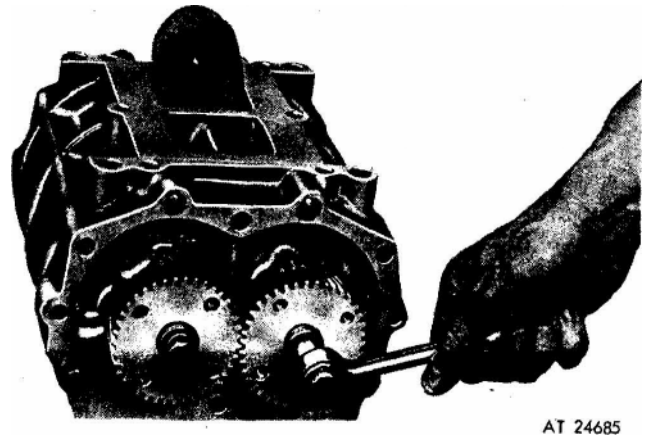

Figure 8. Installing blower rotor gears on rotor shafts.
9. Wedge a clean cloth between the blower rotors. Use the blower rotor gear retaining bolts and plain washers to press the gears on the rotor shafts (fig. 8). Turn the bolts uniformly until the gears are tight against the shoulder on the shafts.
10. Remove the bolts and plain washers; then place the blower gear washers (48) on the gears. Start the gear retaining bolts (44) into the rotor shafts and tighten them to 25-30 lb-ft torque.